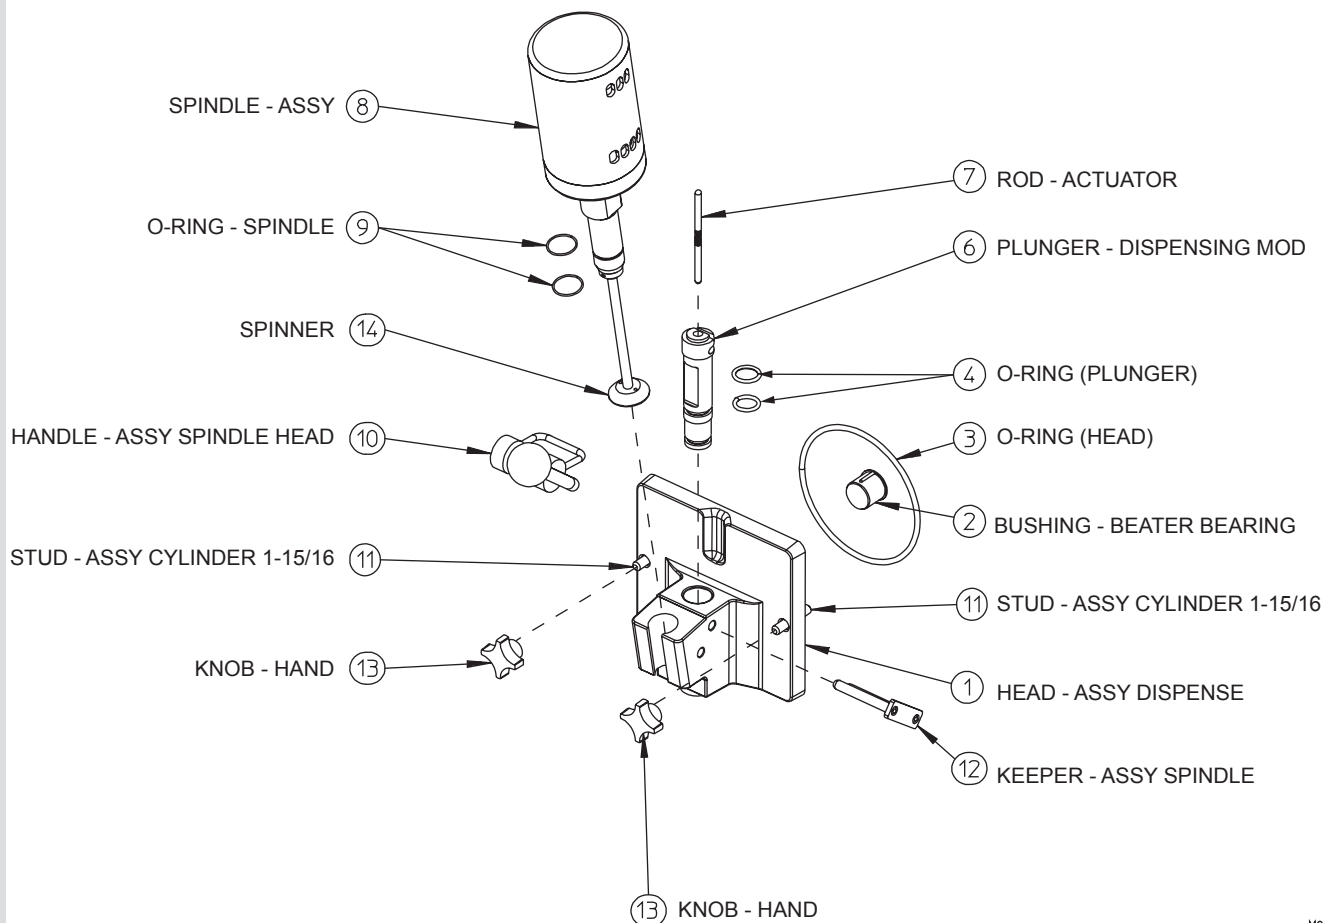

Figure 6-2 Dispense Head Assembly
3. Pull the keeper (12) out of the head.
4. Remove spindle assembly (8) (Refer to figure 6-2). Remove the actuator rod (7) by lifting up and swinging towards you.
7. Remove the plunger (6, figure 6-2) and the O-rings from the head and plunger (3,4,5).